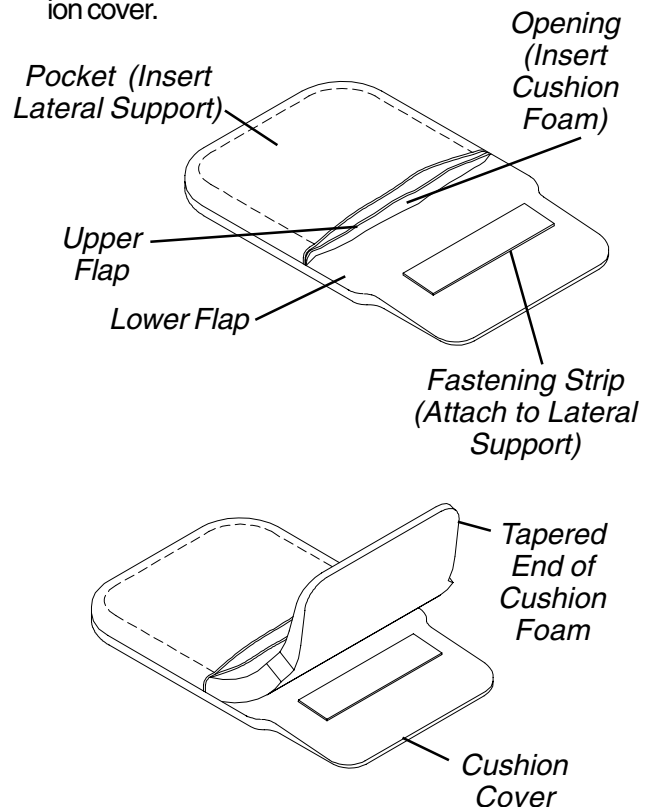

FIGURE 2 - REMOVING/INSTALLING LATERAL SUPPORT CUSHION FOAM
Installing/Removing Lateral Support Cushion Foam (FIGURE 2)
2. Position the cushion cover on a flat surface with the pocket facing UP as shown in **FIGURE 2**.
2. Position the cushion cover as shown in **FIGURE 2**.